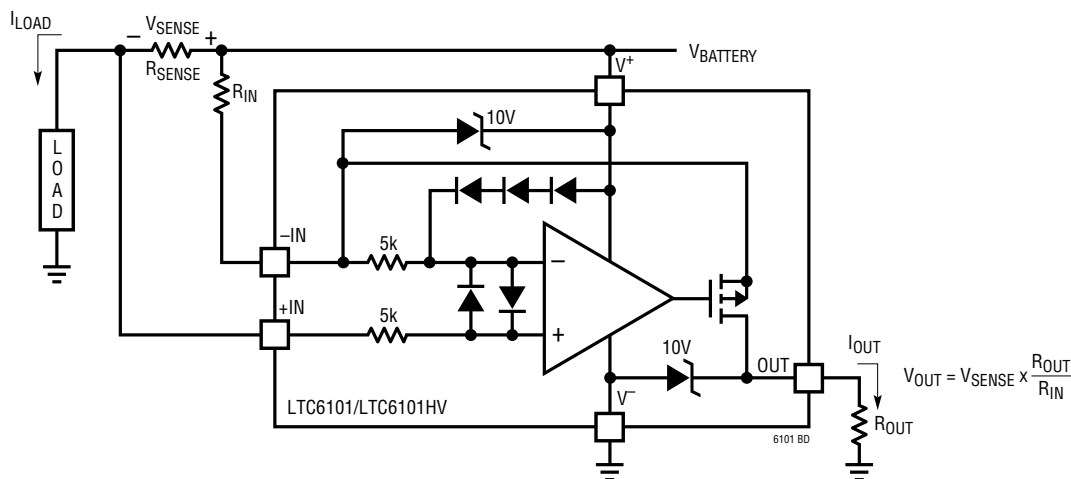

Figure 1. LTC6101/LTC6101HV Block Diagram and Typical Connection
ELECTRICAL CHARACTERISTICS (LTC6101HV) The ● denotes the specifications which apply over the full specified temperature range, otherwise specifications are at $T_A = 25^\circ\text{C}$, $R_{IN} = 100\Omega$, $R_{OUT} = 10k$, $V_{SENSE}^+ = V^+$ (see Figure 1 for details), $5V \leq V_S \leq 100V$ unless otherwise noted.
-IN: The internal sense amplifier will drive IN⁻ to the same potential as IN⁺. A resistor (R_{IN}) tied from V⁺ to IN⁻ sets the output current $I_{OUT} = V_{SENSE}/R_{IN}$. V_{SENSE} is the voltage developed across the external R_{SENSE} (Figure 1).
The LTC6101 high side current sense amplifier (Figure 1) provides accurate monitoring of current through a user-selected sense resistor. The sense voltage is amplified by a user-selected gain and level shifted from the positive power supply to a ground-referred output. The output signal is analog and may be used as is or processed with an output filter.